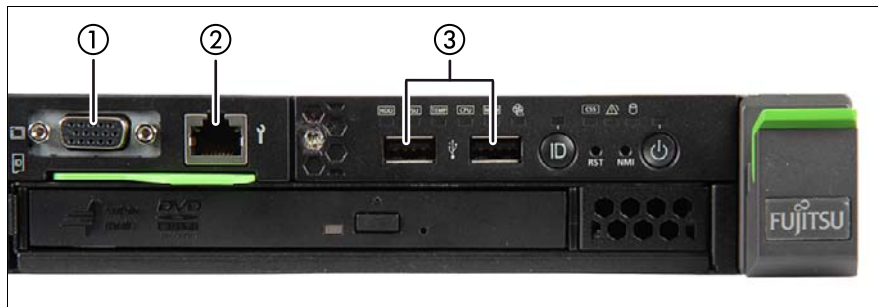

Figure 3: Connectors on the front
One optional video connector (1), one optional Front LAN connector (2) and two additional USB connectors (3) are located on the front of the server (figure 3):